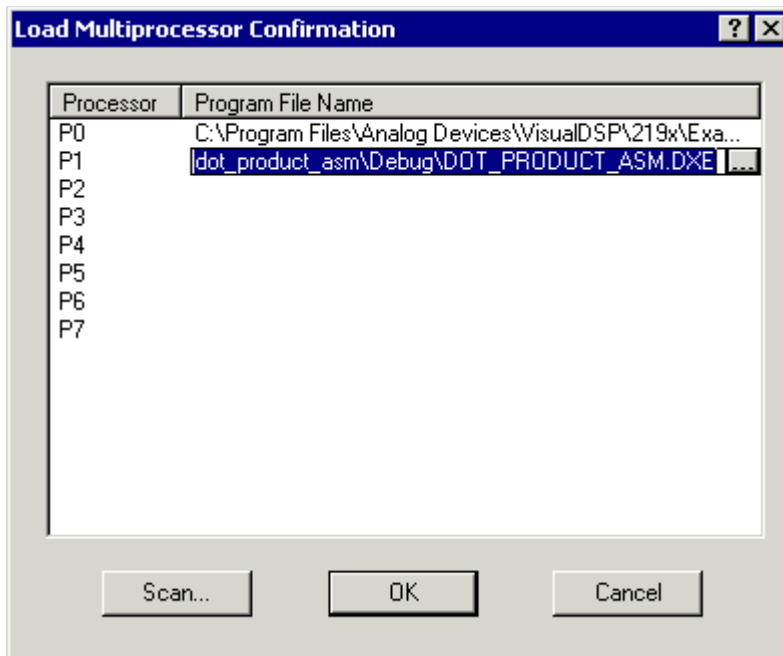

Figure 2-48. Specifying Load dot_product_asm.dxe into Processor P1
- c. Double-click `dot_product_asm.dxe` to place the path to this program into the P1 row of the **Load Multiprocessor Confirmation** dialog box (see Figure 2-48 on page 2-63).